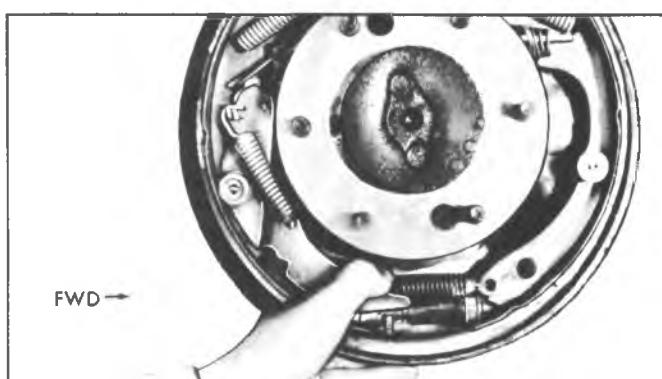

Fig. 51-Checking Actuating Lever
- After completing installation, make certain the actuator lever functions easily by hand operating the self-adjusting feature (fig. 51).